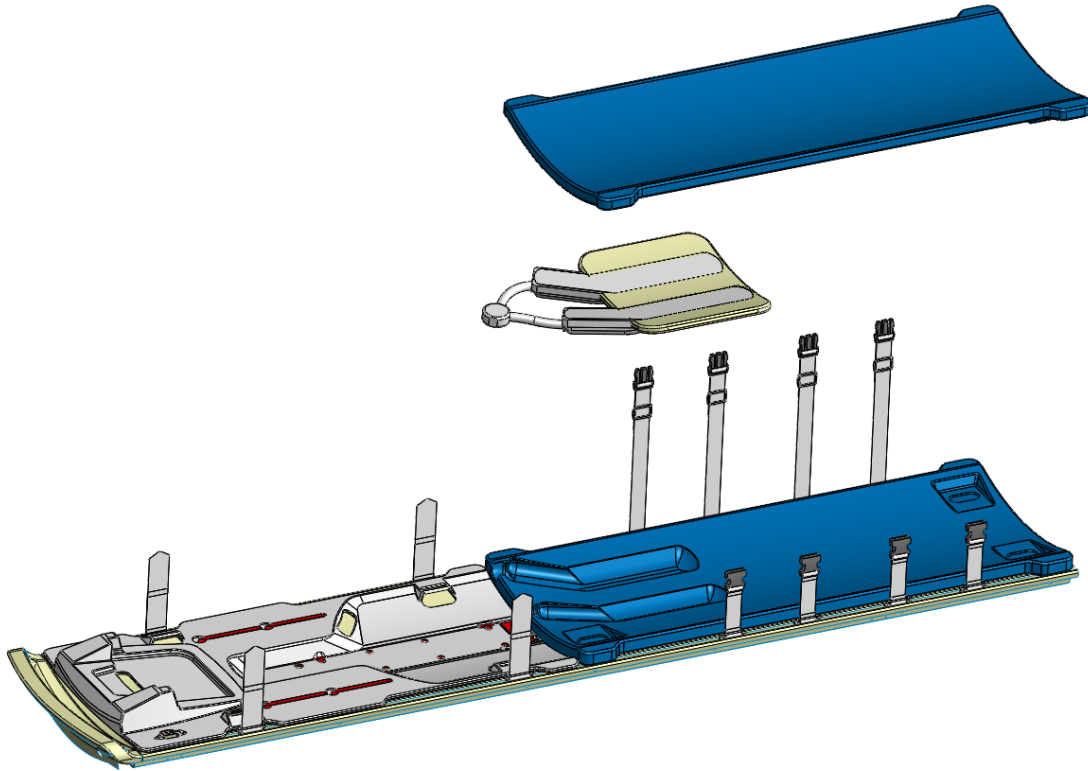

Figure 2: Base plate, coil holder, and patient pad
2. Place the coil in the TULSA-PRO Coil Holder, buckle the straps, and cinch them tightly. Place the Coil Holder with the posterior coil onto the MRI table, with the cable exiting the coil holder towards the head of the MRI table. The feet of the base plate should fit in the rails of the MRI table and should not move when in position. Place the TULSA-PRO® head pad above the coil holder (*Figure 2*).
5.a.ii Preparing a Work Surface and Connecting the Positioning System (PS)